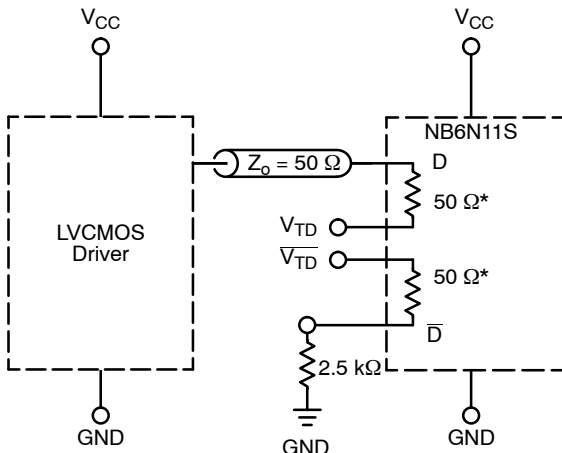

Figure 15. LVCMOS Interface
**DIFFERENTIAL INPUTS DRIVEN SINGLE-ENDED** (Figures 15, 16, 20, and 22)